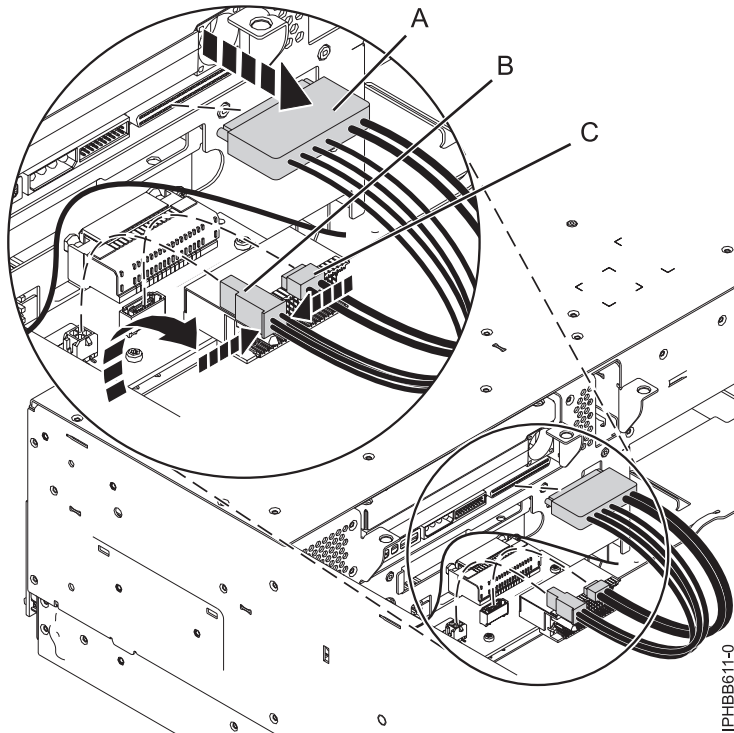

Figure 5. Disconnecting the media device cables from the disk drive backplane
11. Disconnect the cables from the back of the disk drive backplane, as shown in Figure 5 on page 7. If you have connected an external SAS cable, ensure that you disconnect the SAS cable from the disk drive backplane. For more information about external SAS port, refer to Installing the external SAS port in the 8233-E8B or 8236-E8C.